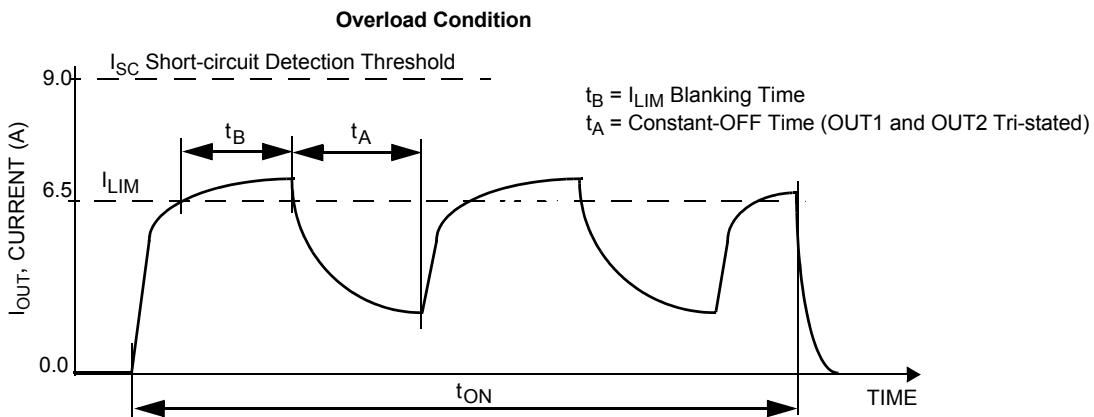
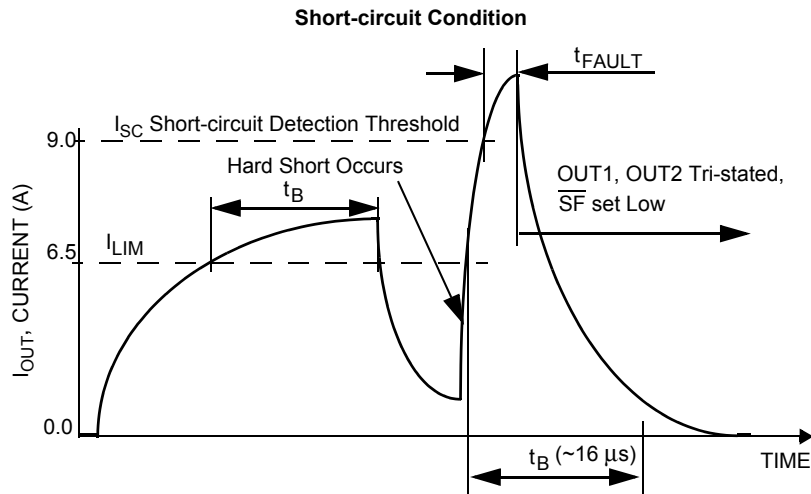
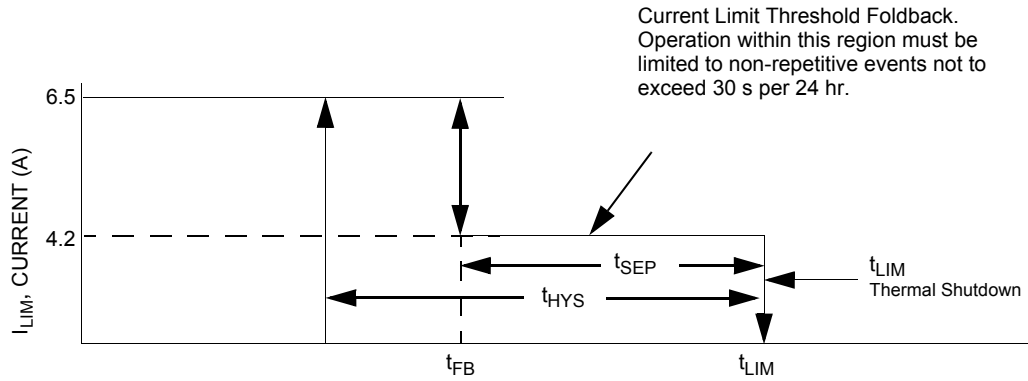

Figure 7. Current limit blanking time and constant-off time
Figure 8. Short-circuit detection turn-off time t_{FAULT}
Figure 9. Output current limiting foldback region
- Load currents ramping up to the current regulation threshold become limited at the I_{LIM} value (see Figure 7). The short-circuit currents possess a di/dt which ramps up to the I_{SCH} or I_{SCL} threshold during the I_{LIM} blanking time, registering as a short-circuit event detection and causing the shutdown circuitry to force the output into an immediate tri-state latch-OFF (see Figure 8). Operation in Current Limit mode may cause junction temperatures to rise. Junction temperatures above $\sim 160\text{ }^\circ\text{C}$ causes the output current limit threshold to “fold back”, or decrease, until $\sim 175\text{ }^\circ\text{C}$ is reached, after which the t_{LIM} thermal latch-OFF occurs. Permissible operation within this fold back region is limited to non-repetitive transient events of duration not to exceed 30 seconds (see Figure 9).